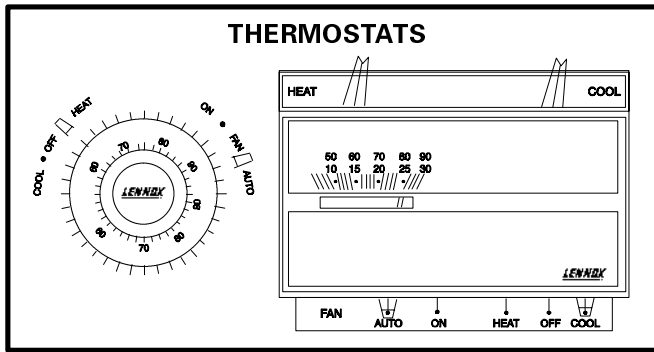

FIGURE 3
- 1- Set thermostat to lowest setting. See figure 3.
- 10- Set thermostat to desired setting. See figure 3.